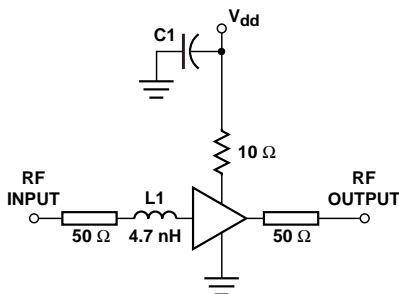

Figure 10. Test Circuit for 2 GHz.
3. Guaranteed specifications are 100% tested in the circuit in Figure 10 in the Applications Information section.
The circuit shown in Figure 10 is used for 100% RF testing of Noise Figure and Gain. The input of this circuit is fixed tuned for a conjugate power match (maximum power transfer, or, minimum Input VSWR) at 2 GHz. Tests in this circuit are used to guarantee the NF_{test} and G_{test} parameters shown in the Electrical Specifications table.
The test circuit in Figure 10 illustrates a suitable method for bringing bias into the MGA-87563. The bias connection must be designed so that it adequately bypasses the V_{dd} terminal while not inadvertently creating any resonances at frequencies where the MGA-87563 has gain.
The input of the MGA-87563 is partially matched internally to 50 Ω . The use of a simple input conjugate matching circuit (such as shown in Figure 10 for 2 GHz), will lower the noise figure considerably. A significant advantage of the MGA-87563’s design is that the impedance match for NF_o (minimum noise figure) is very close to a conjugate power match. This means that a very low noise figure can be realized simultaneously with a low input VSWR. The typical difference